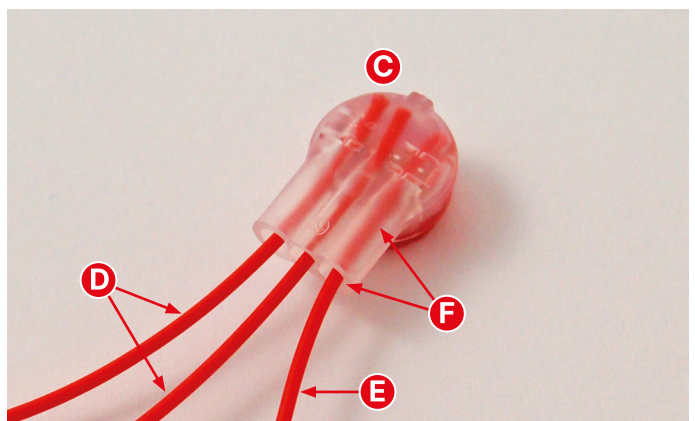

Fig. 23
5. Take one of the **Scotchlok™** 3 way butt connectors with the transparent side facing, **Fig.23, C**.
6. Next take the **red** wires from the speaker and the speaker pcb, **Fig.23, D**, and the **red** wire from the **red/blue** female connector cable, **Fig.23, E**.
7. Feed each **red** wire in turn into one of the connector barrels on the **Scotchlok™** 3 way butt connector, refer to **Fig.23, F**.
8. When feeding the **red** wires into the **Scotchlok™** 3 way butt connector they should be pushed all the way to the end of the connector barrel as far as they will go, this can be seen through the transparent side of the connector, **Fig.23, C**.